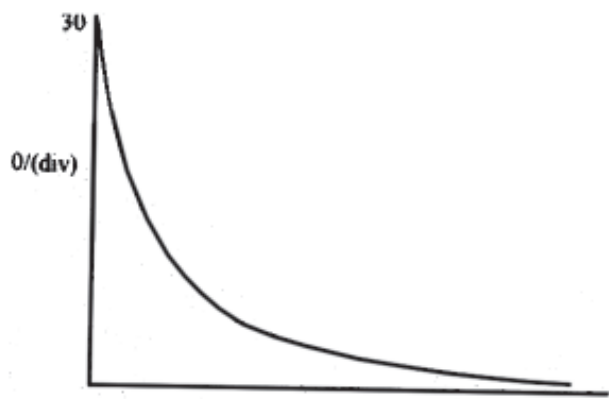

Fig. 25.3 : Galvanometer deflection (Q) verses time (t). time/(s)
- viii) Plot galvanometer deflection θ along Y-axis against time t along axis as shown below (Fig. 25.3).